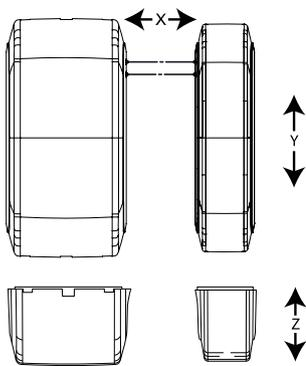
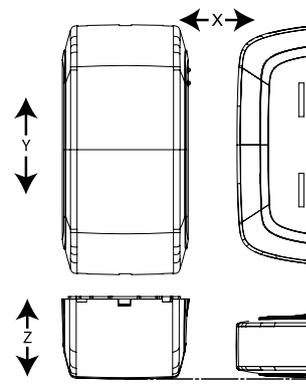

Figure 9: Range coverage directions
Figure 10: Range coverage directions (with perpendicular magnet)
**Note:** The magnet can be mounted parallel or perpendicular to the device. Ensure the magnet and device sensor markings align, depending on the magnet orientation. See Figure 9 or 10.
- Y (up) refers to the upper half of the Y plane and Y (down) refers to the bottom half of the device on the Y plane. See Figure 9 and 10.
- When mounting the magnet perpendicular to the device, align the magnet with the face of the device. See Z plane illustration in Figure 10.
- During the anti-mask calibration process, align the magnet with the device decorative cover. See Figure 9 for a parallel magnet installation. See Figure 10 for a perpendicular magnet installation.